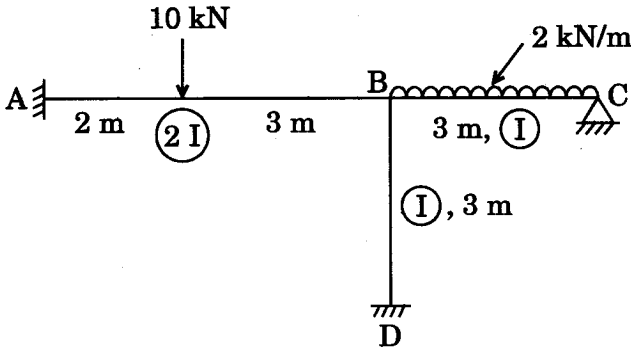

Figure 6
7. A continuous beam ABC is supported on an elastic column BD and is loaded as shown in Figure 6. Treating B as rigid, analyse the frame and plot the BMD by moment distribution method. 14